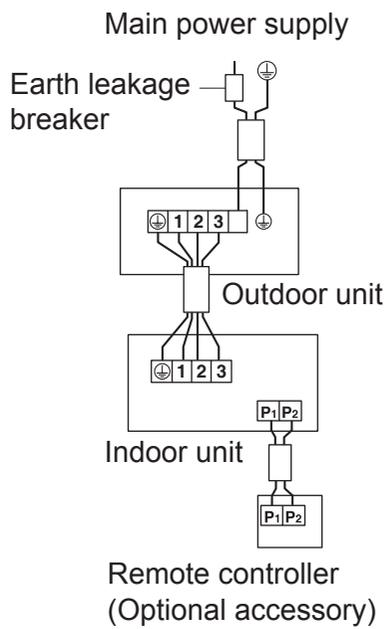

Fig. 30
- **Pair type:** 1 remote controller controls 1 indoor unit. (standard system) (Refer to Fig. 30)